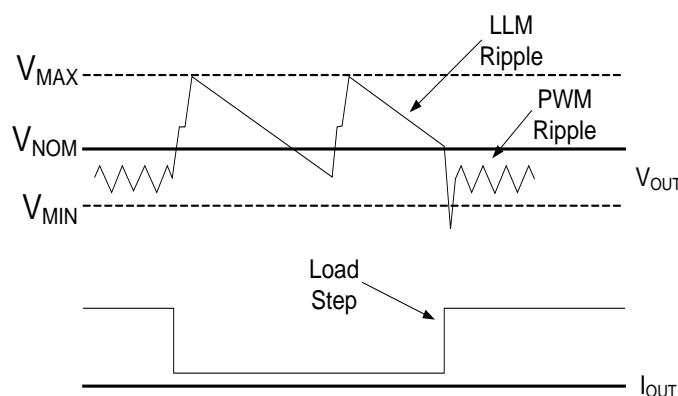

Figure 5: V_{OUT} behavior in LLM operation.
- (2) Shut down unnecessary circuitry, and then
- (3) Monitor V_{OUT} .
When V_{OUT} falls below V_{NOM} , the device will repeat (1), (2), and (3). The voltage step up, or pre-positioning, improves transient droop when a load transient causes a transition from LLM mode to PWM mode. If a load transient occurs, causing V_{OUT} to fall below the threshold V_{MIN} , the device will exit LLM operation and begin normal PWM operation. Figure 5 demonstrates V_{OUT} behavior during transition into and out of LLM operation.